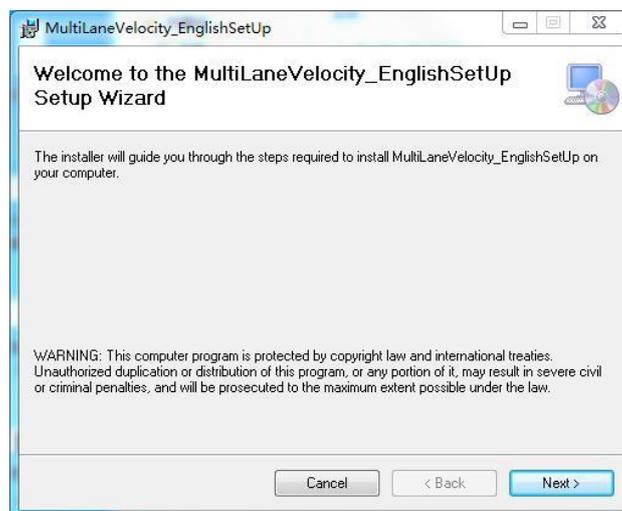

Figure 2-1 Installation Wizard
2. Install the debugging software according to the installation wizard, as shown in Figure 2-1.